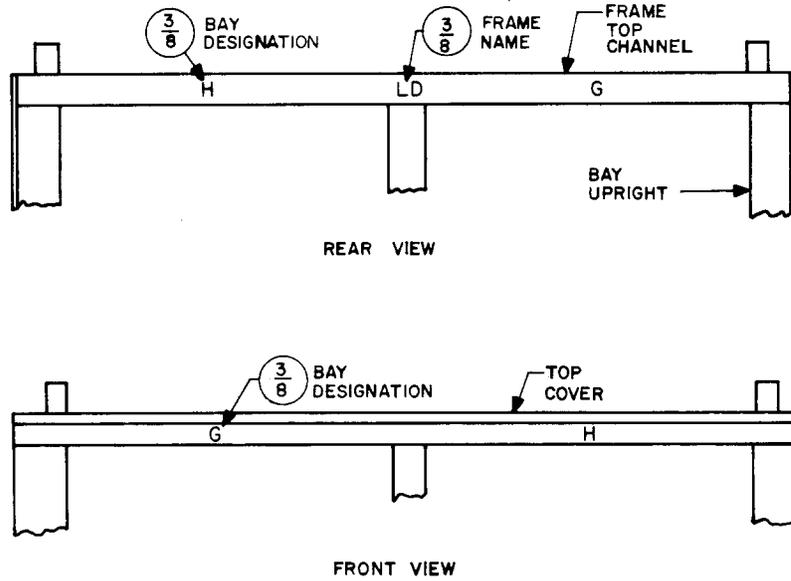

Fig. 3 - Method of Stamping Frame Name and Bay Designations
2.14 Frame name designations shall be stamped with 3/8-inch characters centered on the top rear cross channel. (See Fig. 3.)
between the bay uprights. On single or triple bay frames, designations that conflict in location with the frame name designation shall be stamped 5 inches left of the frame name. (See Fig. 3.)